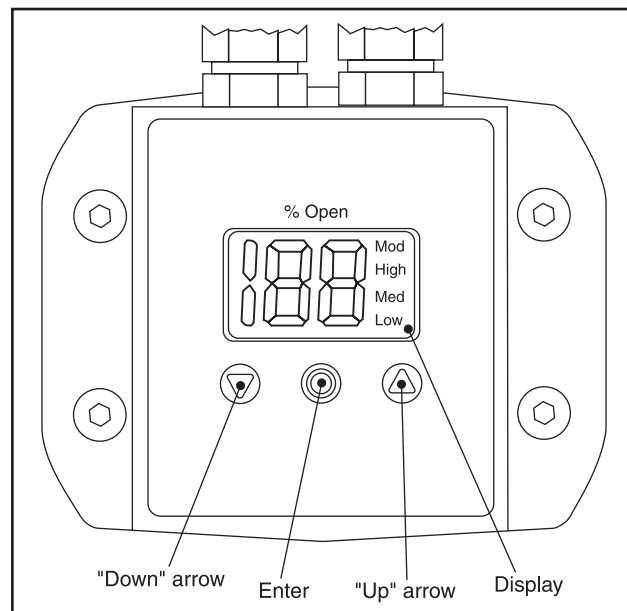

Figure 16
The setting of parameters is managed by means of the integrated ICAD MMI (Figures 16 and 17) and consists of:
- “Down” arrow push button (Figure 16)
- “Up” arrow push button (Figure 16)
- Enter push button (Figure 16)
- To exit from the Parameter list and return to the display of Opening Degree (OD), keep the push button activated for 2 seconds.
- Display (Figure 16)
- Displays the function status by means of text (Figure 16).
If an alarm has been detected the ICAD display (Figure 16) will alternate between showing Actual alarm and present Opening Degree.
5. When the display on ICAD (Figure 16) is alternating between showing: **CA** and **A1** the factory resetting is complete.